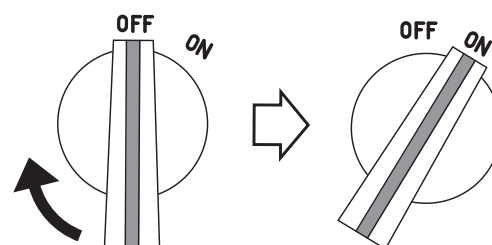

Figure 15. Engine ON/OFF Switch (ON Position)
4. Place the engine **ON/OFF** switch (Figure 15) in the "ON" position.